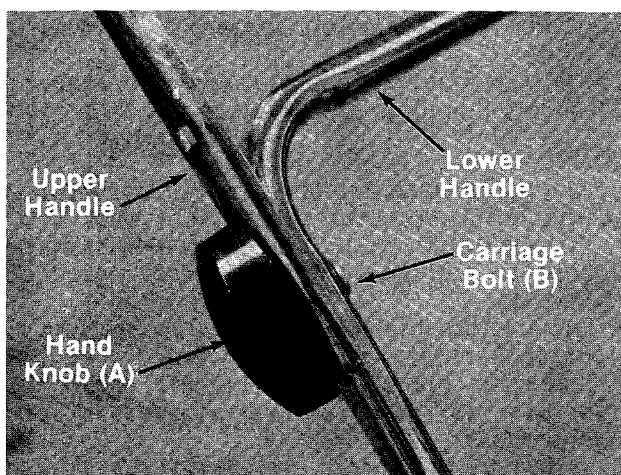

FIGURE 3.
- ← Secure with two carriage bolts (B) and hand knobs (A) as shown in figure 3. The knobs may be assembled either to the inside or the outside of the handle.